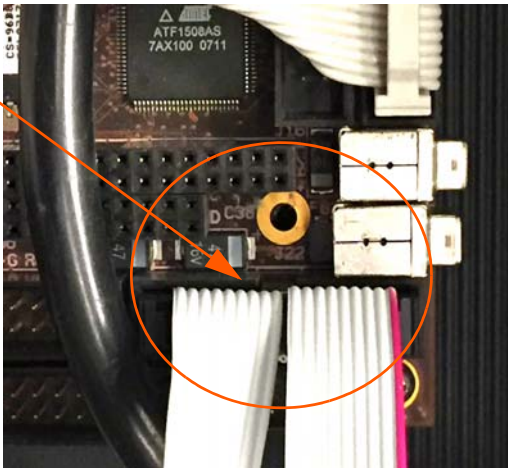

Figure 3.24 Winsystem Ribbon Cable Connections
- 1 Locate the ribbon cable with the red stripe, shown in Figure 3.23. Connect the cable with the red strip to a pin in the ribbon cable connector as illustrated in Figure 3.24.
- 2 Connect the other end to the null modem serial female-to-female cable. See Figure 3.24 on page 3-23.